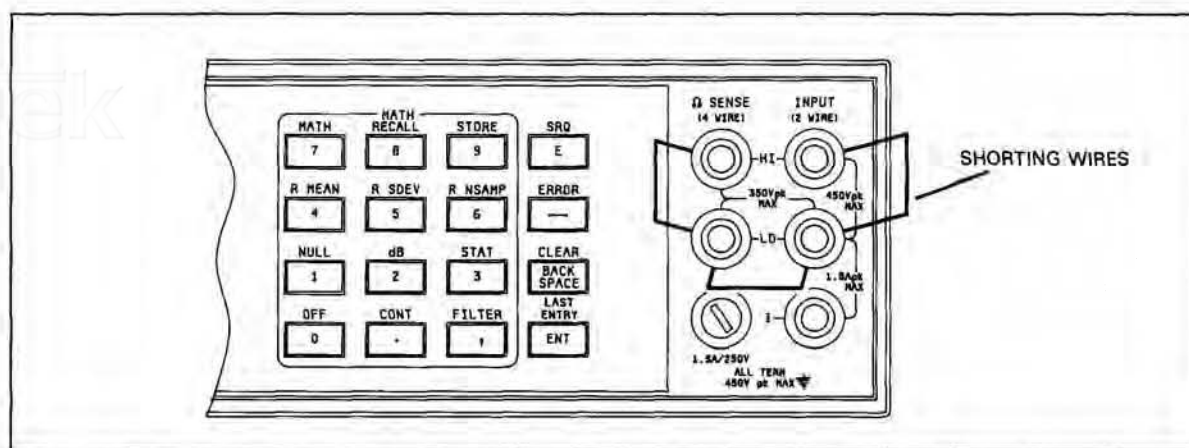

Figure 5-1. Input Connections for Four-Wire Ohms Offset Calibration
5-32. Equipment Required. A low thermal short (copper wire) is required for this procedure. (Refer to Figure 5-1).
b. Connect the short across the Front Panel **HI** and **LO** Input Terminals and the Ω Sense **HI** and **LO** terminals as shown in Figure 5-1.